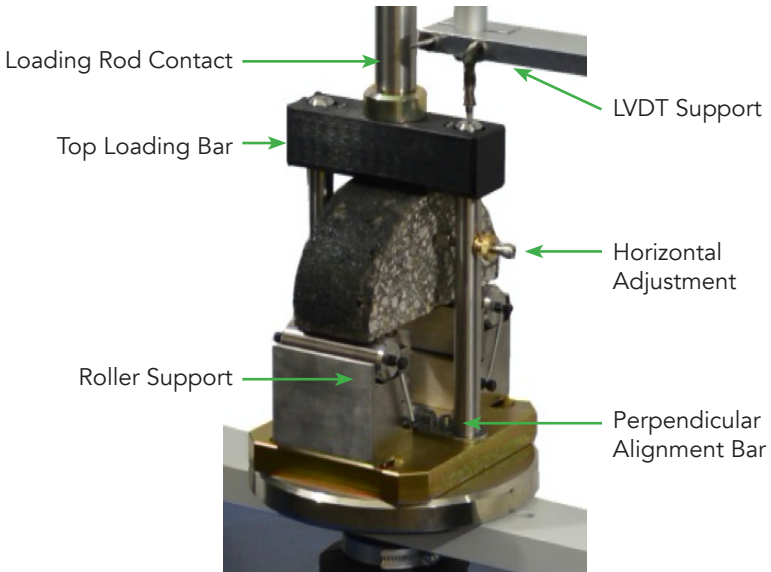

Fig 4. SCB Jig with Asphalt Specimen
4. Insert a specimen into the SCB Jig (Figure 4). Adjust the horizontal alignment bolt such that the specimen is centered on the roller supports. Raise the perpendicular alignment bar into the notch cut into the specimen to align it perpendicularly to the horizontal alignment bolt.